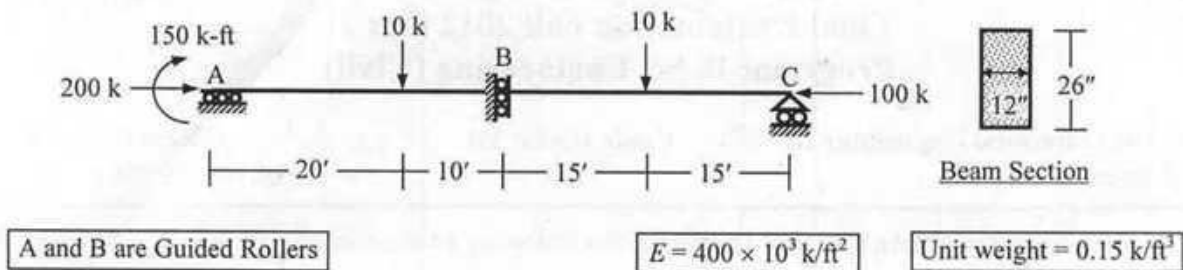

Fig. 4
5. Assemble the stiffness matrix, load vector and calculate the unknown joint deflections and rotations of the beam ABC loaded as shown in Fig. 4, considering both axial and flexural deformations.
6. Use Stiffness Method to calculate the unknown joint deflections and rotations of the beam ABC loaded as shown in Fig. 4, considering flexural deformations only with geometric nonlinearity.
7. Consider flexural deformations only to calculate the natural frequencies of beam ABC shown in Fig. 4, using the consistent-mass matrix, if it made of a material with unit weight =  $0.15 \text{ k/ft}^3$ .
8. Use Constant Average Acceleration (CAA) Method to calculate the horizontal deflection at node A of the 5% damped member AB of the beam ABC shown in Fig. 4, if it is subjected to ground acceleration  $a_g = 15 \text{ Cos}(600t) \text{ (ft/sec}^2\text{)}$ , at time  $t = 0.001 \text{ sec}$  after starting from rest (i.e., no initial displacement and velocity), assuming consistent mass of the member [Material with unit weight =  $0.15 \text{ k/ft}^3$ ].
9. For the beam ABC loaded as shown in Fig. 4, use the Energy Method to calculate the required